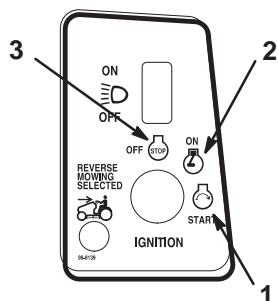

Figure 8
5. Turn the ignition key clockwise and hold it in the Start position (Fig. 8). When the engine starts, release the key.
- Turn the ignition key to Off and remove the key (Fig. 8).